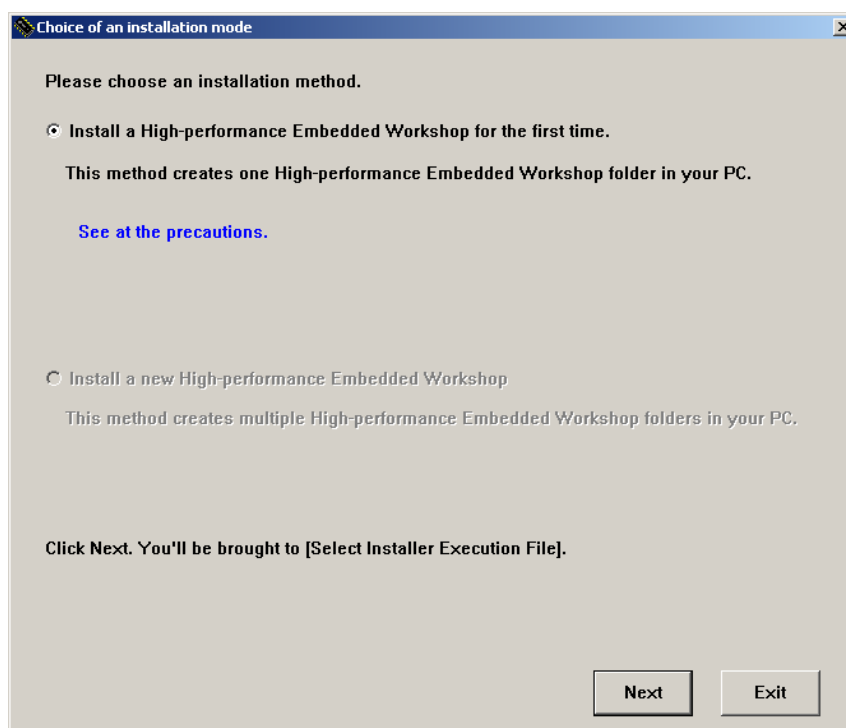

Figure 3.1.2 Installation Procedure (2/4)
- (2) Following dialog box will appear as Figure 3.1.2. Click “Next”.